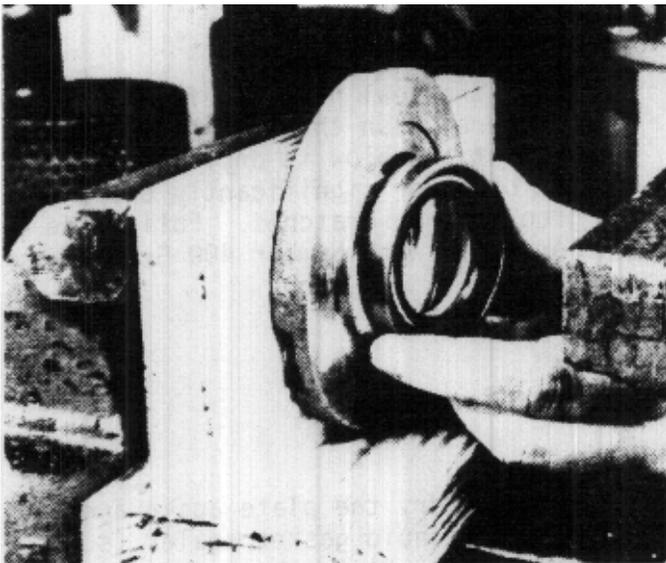

FIGURE 116
8. Position the metal face of the new seal over the seal bore. Make sure it is centered and trued for entry into the bore. (Fig. 116)